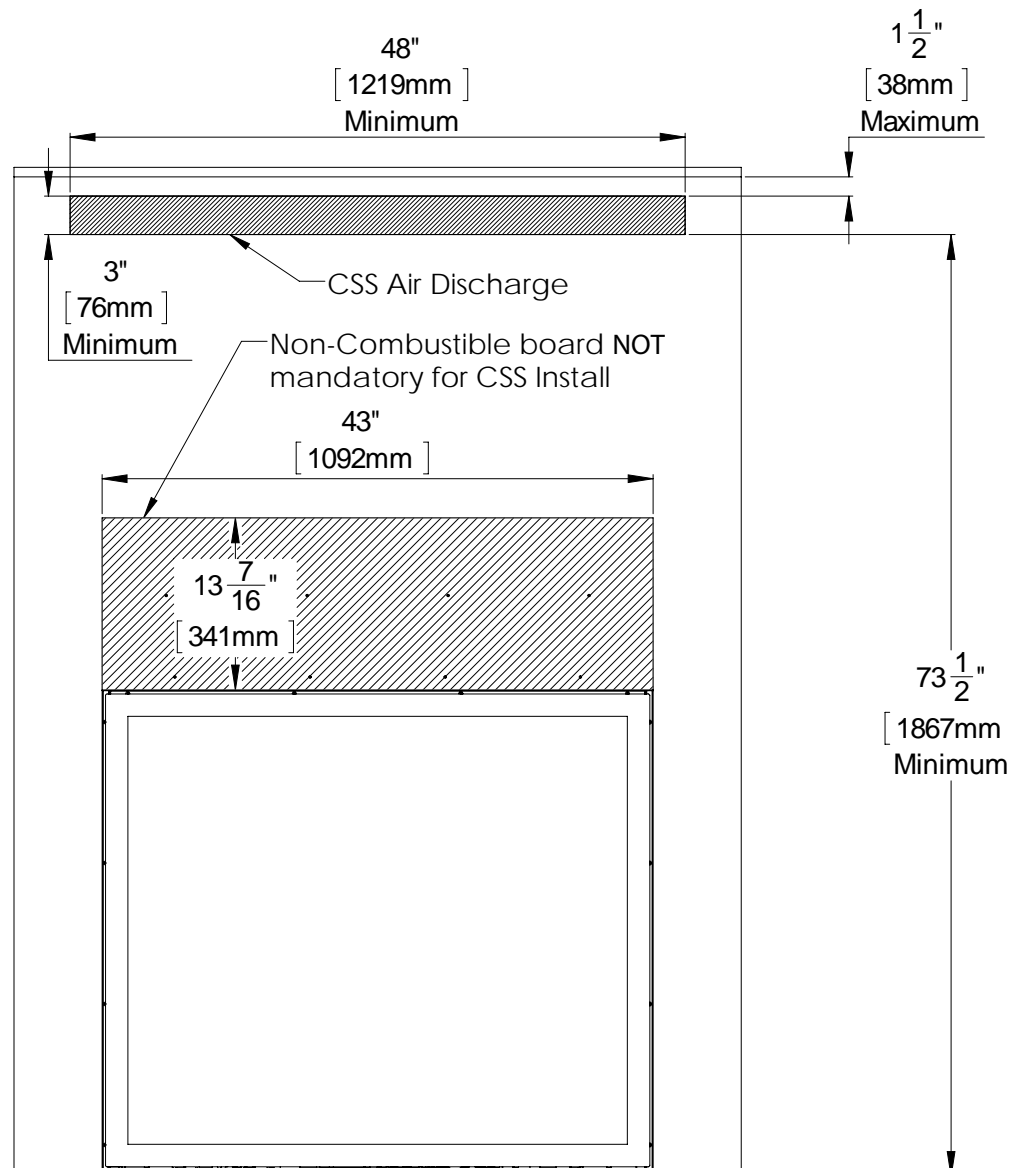
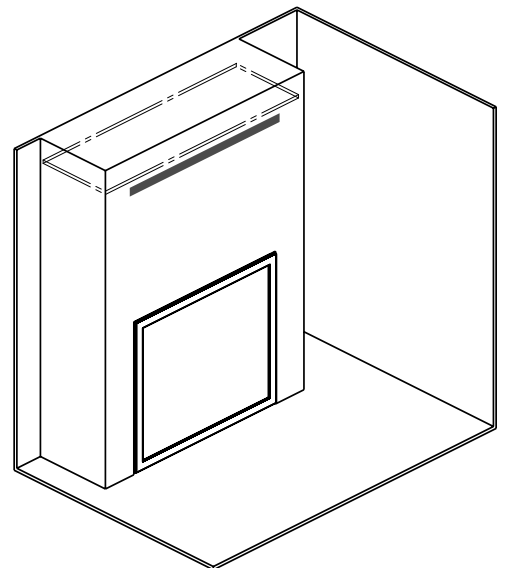

Figure 40: Framing Option 1
Figure 48: False Ceiling Iso View
**Framing Option 1: Front Discharge (flush wall installations)** - Construct the framing in a way that provides a minimum 48 inch (1219mm) by 3 inch (76mm) gap at the top of the facing wall. It is essential that these dimensions are respected and not to deviate away from them when using combustible materials inside the chase (see Figure 40).
**Optional: False Ceiling** - If your ceiling dimension is greater than the minimum (See figure 40) You may want the CSS Air discharge lower on the wall. To do this a false ceiling is required to properly evacuate the heat from the chase. (See Figure 48).